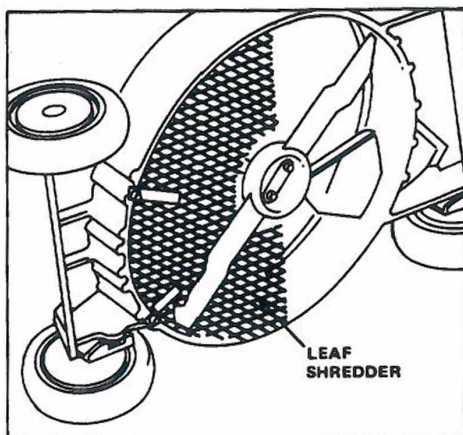

Figure 7
**SHRED LEAVES** — In fall, optional leaf shredder (Fig. 7) reduces leaves to a fraction of their original size while you bag. Minimizes emptying stops and number of trash bags used for disposal.